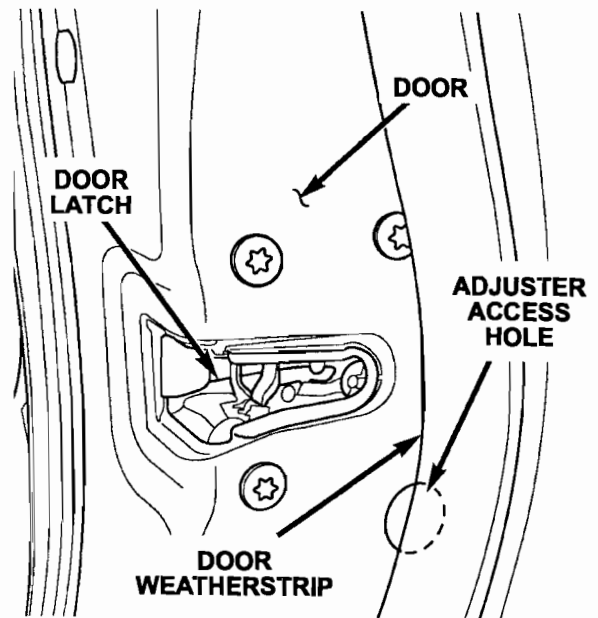

Figure 13 – Passenger Door Shown
- a. Carefully remove and save the black tape patch that covers the adjuster access hole (Figure 13).